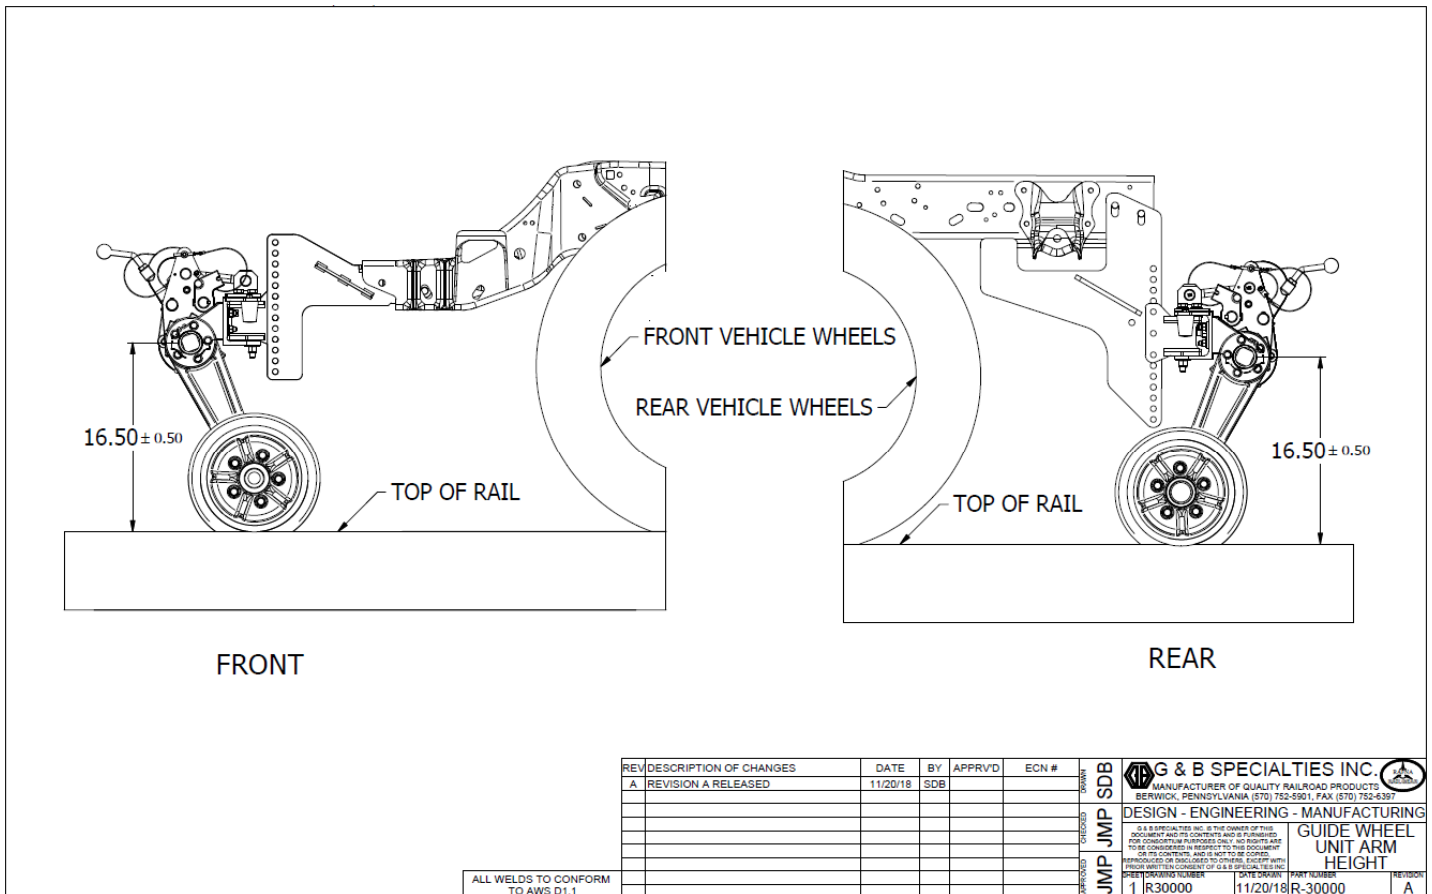

Figure 4-2: Guide Wheel Unit Wheel Arm Vertical Height
1. Figure 4-2 illustrates a side view of a typical R-307A Railgear application. Railgear unit mounts may vary in detail, depending on the vehicle.